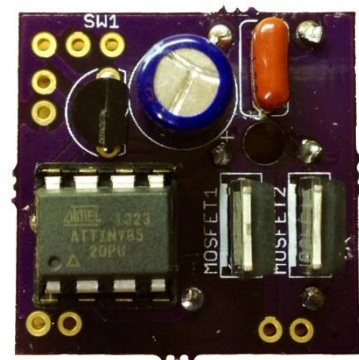

Figure 1.2
2. Flip the PCB over and install C2, the .1uF capacitor. Note, this cap will be in a little different position than seen in Figure 1.2 due to a board update.
7. Install the ATTiny85 chip; note the orientation! (See Figure 1.2 for the finished PCB.)